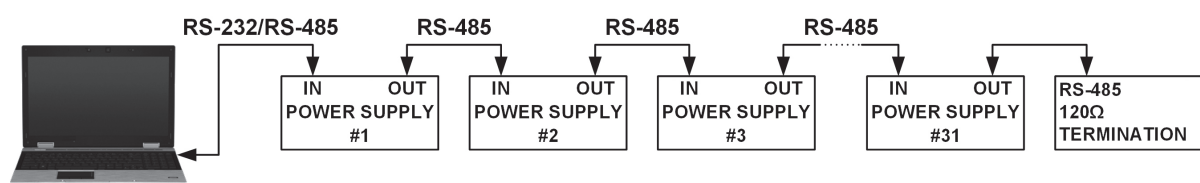

Fig 4-7: Multi power supplies RS232/485 connection
- 3.Refer to Fig. 4-7 for typical connection.